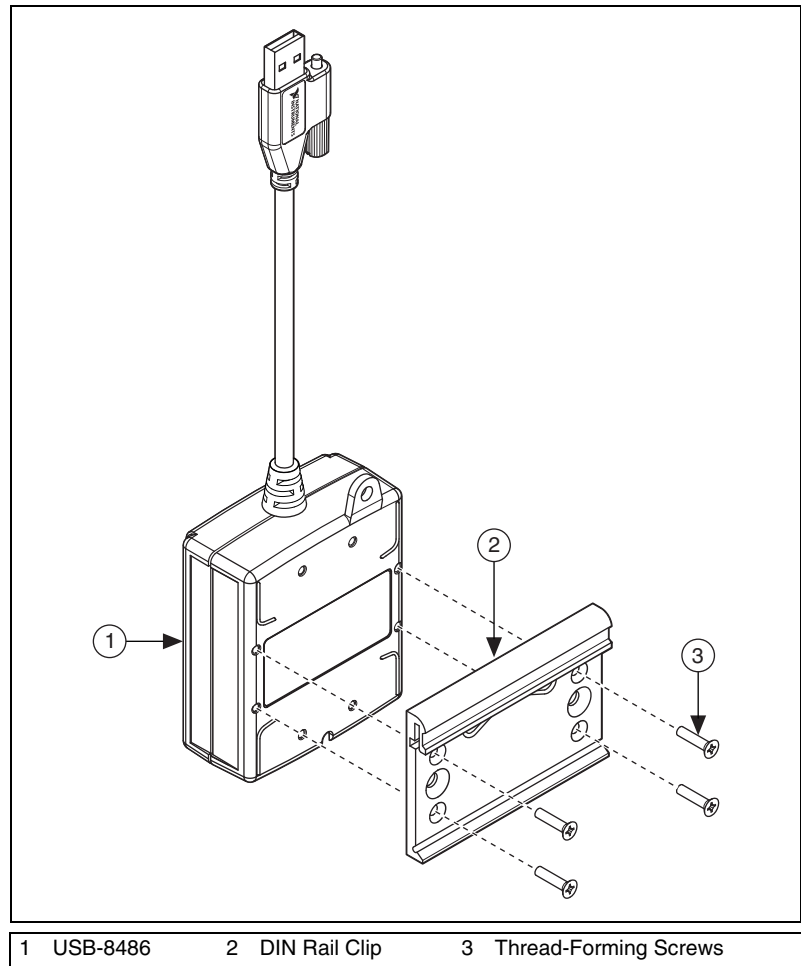

Figure 2-5. Fastening a DIN Rail Clip to the USB-8486
You can use the DIN-rail mounting kit to mount your USB-8486 to a standard DIN rail, as shown in Figure 2-5.
1. Fasten a DIN rail clip to the device using a #1 Phillips screwdriver and four thread-forming screws included in the DIN-rail mounting kit. Tighten the screws to a torque of $0.76 \text{ N} \cdot \text{m}$ ($6.7 \text{ lb} \cdot \text{in.}$). Figure 2-5 shows a DIN rail clip being attached to the device.